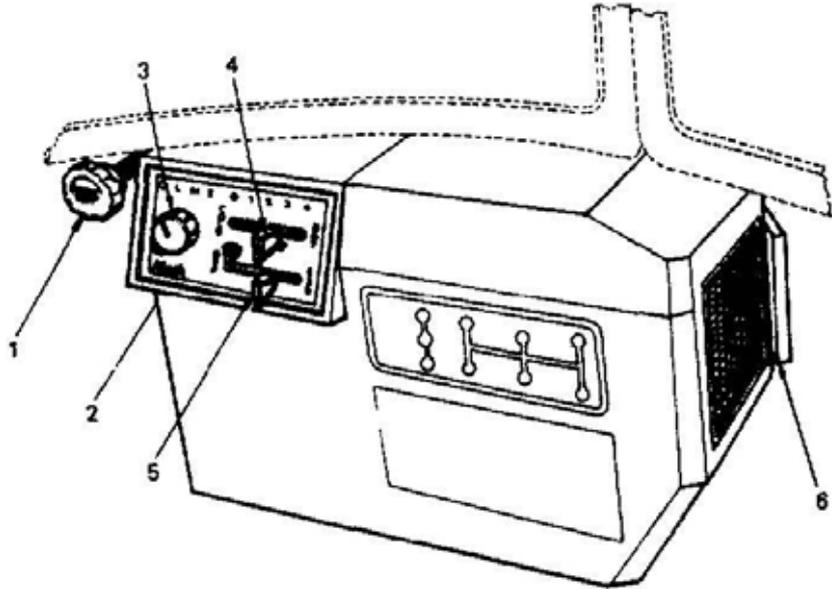

Figure 144 Cowl Vent and Heater Controls
**203. Top Cowl Vent.** Rotating the control clockwise closes the ventilator, anticlockwise opens it. When open at normal highway speeds, this will provide warm air circulation for heating and defrosting without operating the heater fan motor. Under severe cold conditions, the fan motor may also be used to supplement the ram air. In summer, this ventilator may be used for fresh air ventilation (Figure 144, Item 1).
**204. Left-hand Heat Outlet Door.** When opened will provide warm air to the passenger area (Figure 144, Item 2).
**205. Fan Control.** Turn clockwise from off position to desired fan speed, low, medium or high. Turn anticlockwise to shut off (Figure 144, Item 3).
**206. Temperature Control.** Operates the water flow supplying the heater core. Push right to obtain desired temperature. Full right position is high, full left is off. There is a control flow tap mounted on the left rear of the engine. This allows water flow to be turned off during summer (Figure 144, Item 4).
**207. Defroster Control.** Provides entire flow of air to either the defroster or cab interior with any intermediate combination required. Pull left to increase defrosting action. Pull right diverts air flow to cab. Adjust for desired combination (Figure 144, Item 5).
**208. Right-hand Heat Outlet Door.** Provides additional warm air to driver (Figure 144, Item 6).
209. Two fresh air vents are fitted to the cab. One located in the roof, as shown in Figure 145, and the other is located in the cowl in front of the windscreen. The cowl vent opening and closing is controlled by a screw knob located beneath the left-hand dashboard, alongside the heater controls as shown in Figure 144.